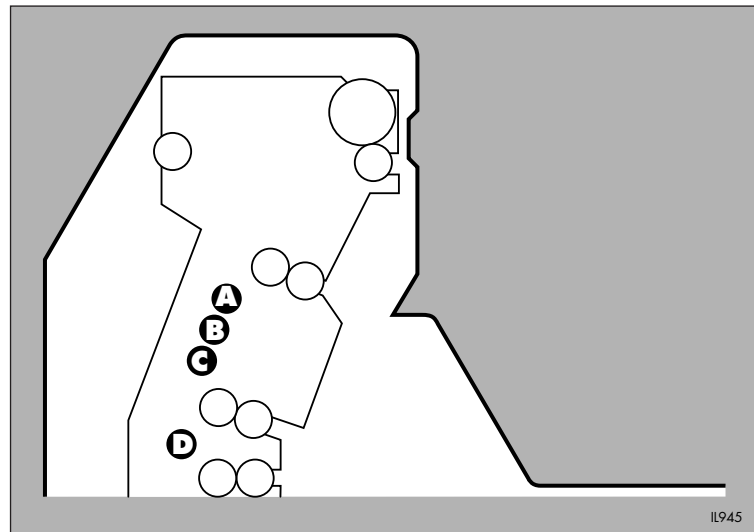

Figure 3.1 Configuration of dryer heaters
See figure 3.1.
other three pages (in sequence) are heater **B**, heater **D** and Temp (B). For further clarification, refer to the key holder pages in section 4. The dryer heaters are shown in figure 3.1.